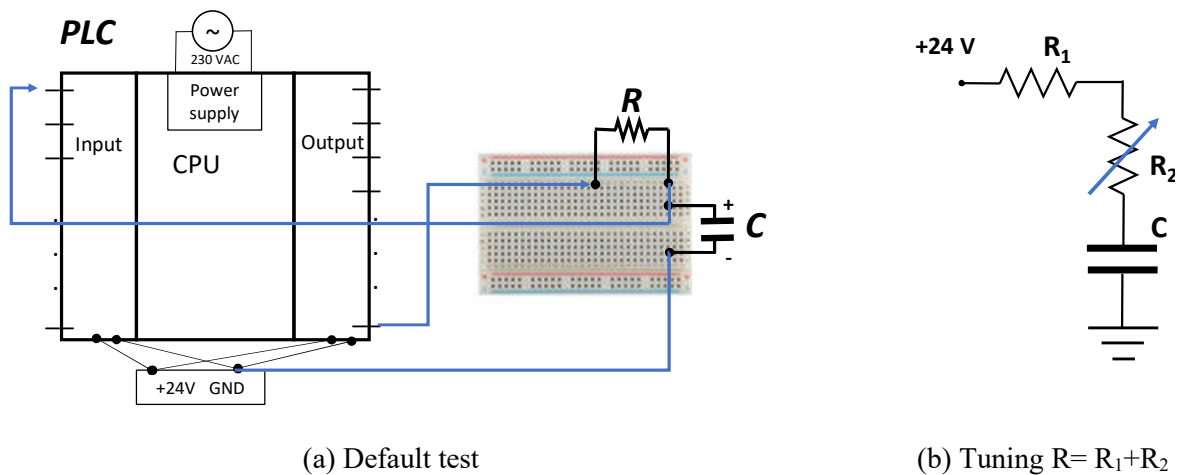

Fig.3: RC circuit powered by a PLC output and observed by a PLC input.
Work to do in the laboratory: Let $R= 3.9K\Omega$ and $C= 1mF$. Mount the resistor and the capacitor (RC) series circuit powered by a PLC digital output, see Fig.3. More in detail, connect one PLC output bit to the resistor and then connect the resistor to the positive terminal of the capacitor. This connection point, between the resistor and the capacitor, is observed by a PLC input. Important: it is an electrolytic capacitor, so polarity must be respected by putting the minus terminal connected to the ground (convention, the minus terminal is the shorter leg of the capacitor).